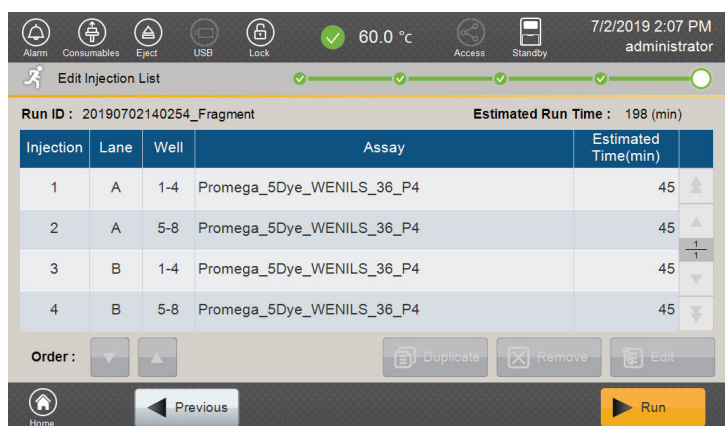
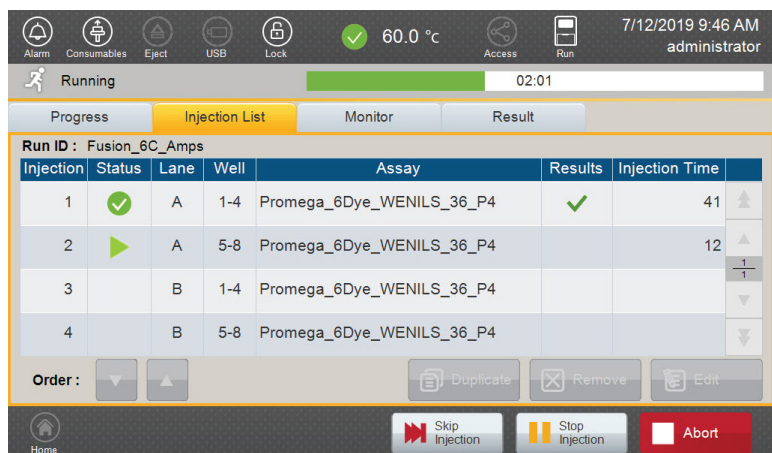

Figure 94. 'Edit Injection List' screen.
Figure 98. 'Injection List' tab.
- After the autosampler has returned to its home position, the 'Edit Injection List' screen will be displayed (Figure 94). To edit the injection list, see Section 5.6.
The 'Edit Injection List' screen (Figure 94) allows users to change the run assay assigned to the linked strips prior to starting the run. You can also remove, duplicate or reorder injections from this screen. By default the injection list displays all scheduled injections in order by lane and well position. You can use the arrows on the right side of the screen to locate a specific injection.
1. Select the appropriate injection in the list (Figure 94), and then select **Edit** to open the 'Select Assay' window.
1. Select the appropriate injection in the list (Figure 94), and then select **Remove**.
Select the appropriate injection in the list (Figure 94), and then select **Duplicate**. The duplicate injection is added to the bottom of the injection list.
1. Select the appropriate injection in the list, and then touch  or  at the bottom left of the 'Edit Injection List' screen (Figure 94) to change the order.
The 'Injection List' tab (Figure 98) displays the same information as the 'Edit Injection List' screen (Figure 94) of the setup process (see Section 5.5) with additional status information and the same footer buttons as on the 'Progress' tab. From the 'Injection List' tab it is possible to edit runs in the same manner as the setup process (see Section 5.6). The options to duplicate, reorder, remove or edit injection information depends on the status of an injection.